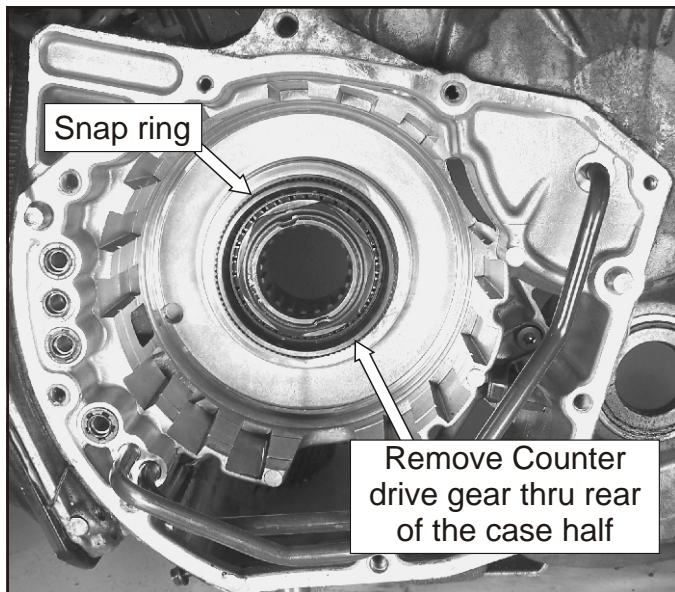
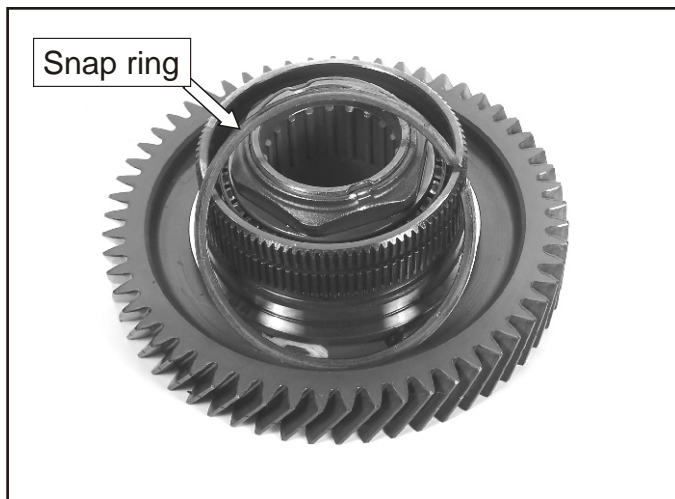

Figure 85
Figure 86
34. Remove the snap ring retaining the Counter drive gear into the case as shown in Figure 85. Refer to Figure 86 to see the Counter drive gear removed from the case.